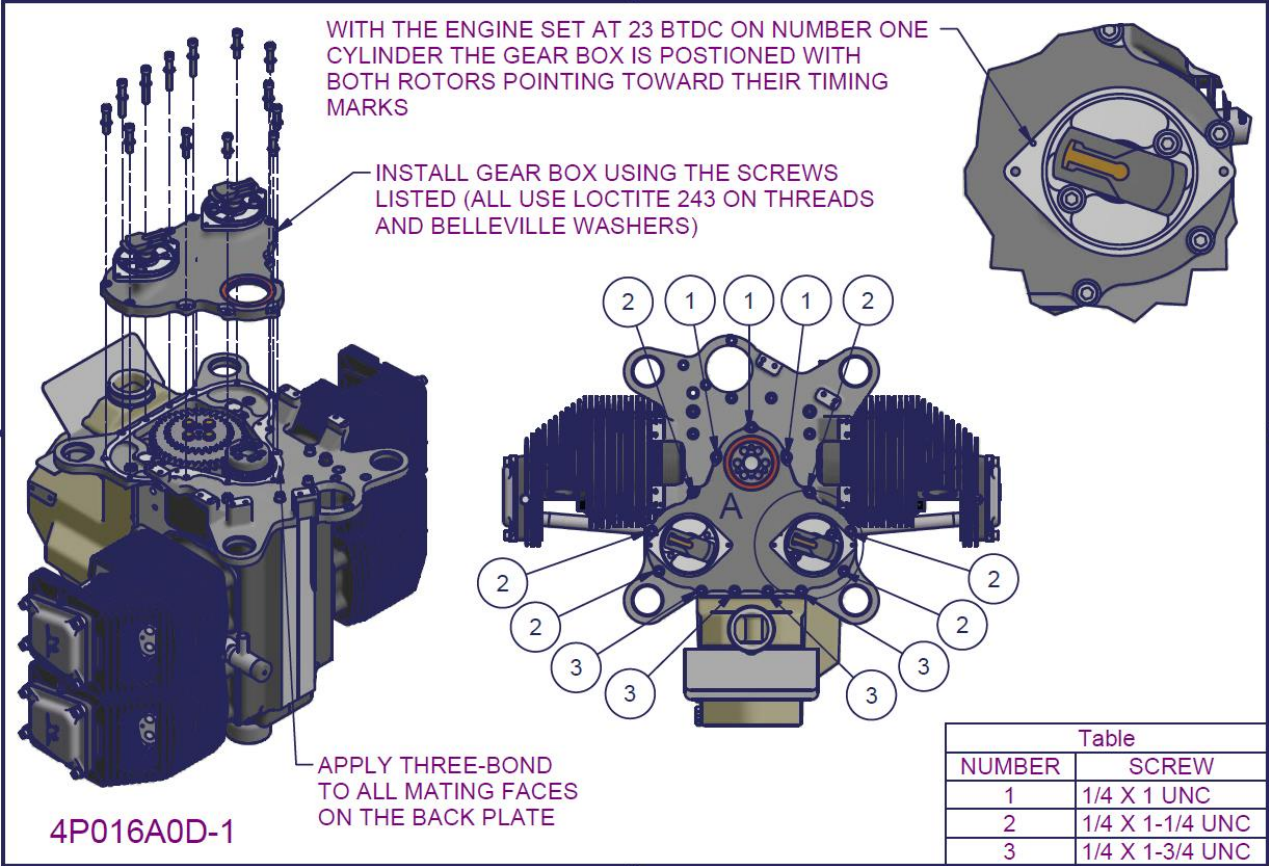

Figure 141 – 2200/3300 back plate and distributor gearbox installation 3
- Install the retaining screws as listed in Figure 141 with Belleville washers and Loctite 243 on the threads, to the torque setting prescribed in section 0 and mark with a paint pen.